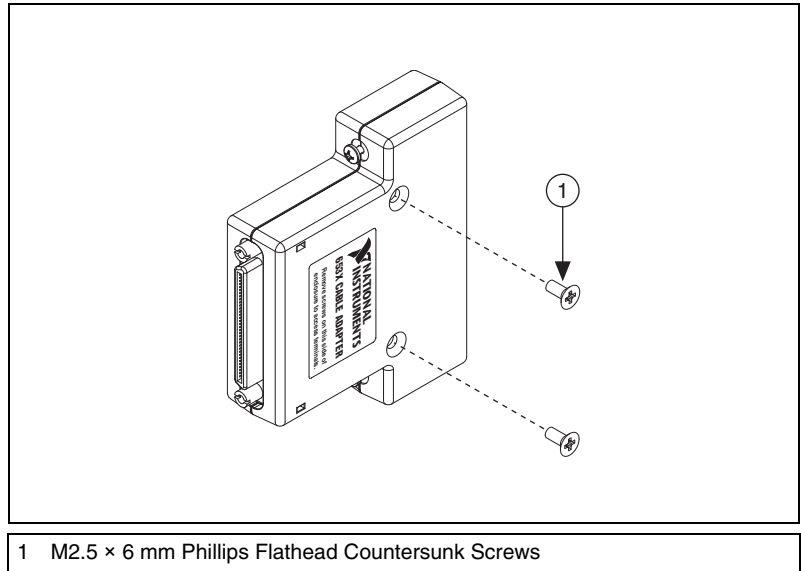

Figure 3. Remove Screws from the Enclosure
1. Remove the screws from the cable adapter enclosure top cover, as shown in Figure 3.
Note Be sure to remove the screws from side with the NI logo label, as shown in Figure 3.